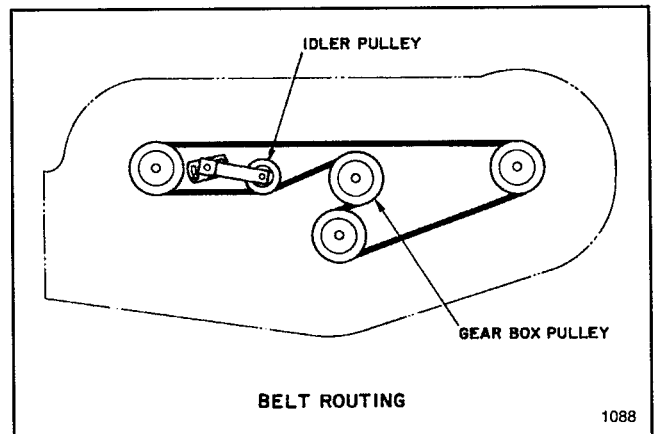

Figure 30
3. Loosen two nuts securing idler plate in place to relieve tension (Fig. 30).
4. To install new belt, the gear box base must be removed. To do this, remove (4) bolts and lock nuts holding gear box base to mower.
5. Install new belt around spindle, gear box and idler pulley (Fig. 30).